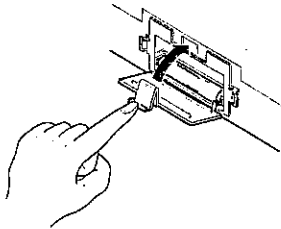

Fig. 2
2. Install a "AA/SUM-3/R6" size battery exactly as shown on the compartment (Fig. 2).